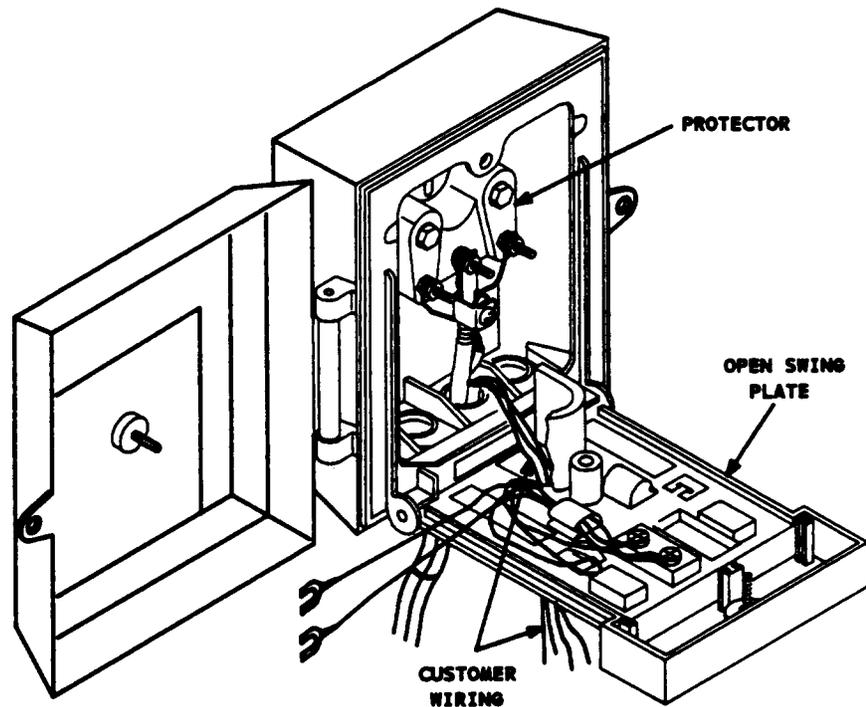

Figure 9. Opening Swing Plate
- (3) Open the inside swing plate of the NIU, using the KS-19192 L1 security tool. Disconnect the customer inside wiring from the protector block and insert the wires into the curved opening located at the bottom-center of the swing plate (Figure 9).